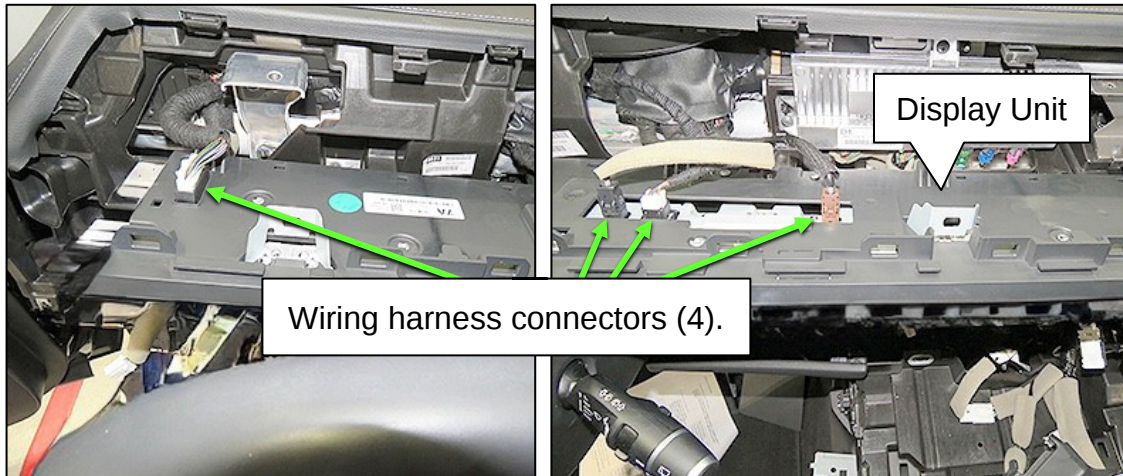

Figure 3
5. Remove the retainer bolts for Display Unit and allow it to gently rest face down (Figure 3).
6. Disconnect the four (4) wiring harness connectors attached to the Display Unit, and then relocate the Display Unit to a safe place out of the way.